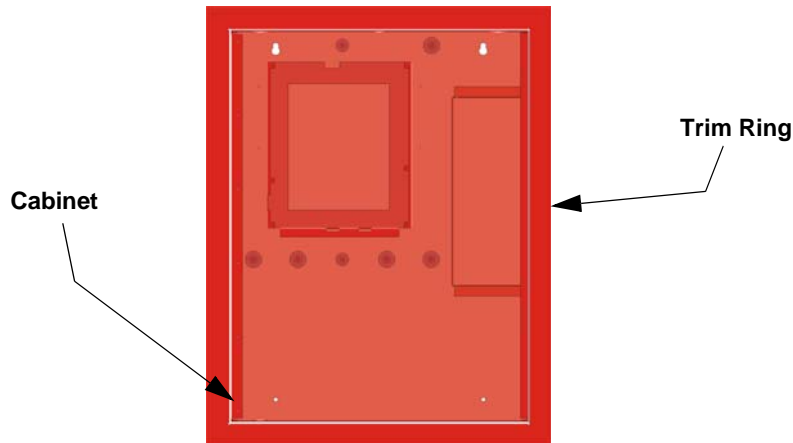

Figure 3-4 Trim Ring Around cabinet
4. Place the trim ring around the cabinet. See Figure 3-4.